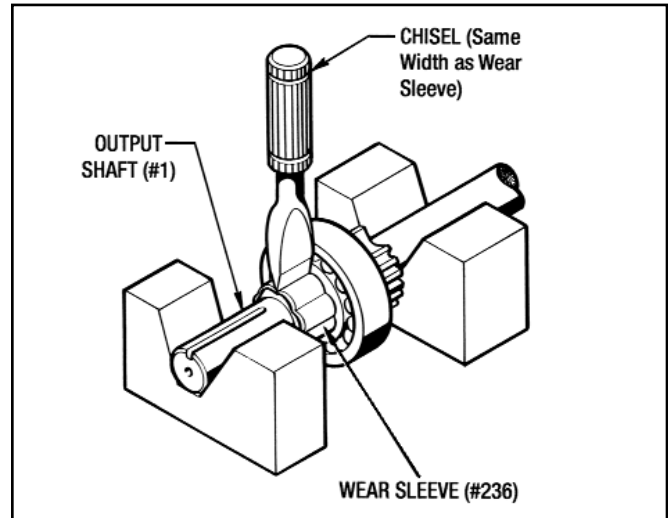

Figure 7.6 - Removing Wear Sleeve (#236) on 1.5 Posidyne
(See Figures 7.6 and 10.1 and 10.2)
2. Remove the Wear Sleeve (#195) from the Input Shaft. The procedure is the same as the one shown in Figure 7.6 for the Wear Sleeve (#236) on the output shaft of the 1.5 *Posidyne*.
2. Remove the Wear Sleeve (#195) from the Input Shaft. The procedure is the same as the one shown in Figure 7.6 for the other Wear Sleeve (#236) on the 1.5 Posidyne.
3. Remove the Wear Sleeve (#236) from the Output Shaft as shown in Figure 7.6.